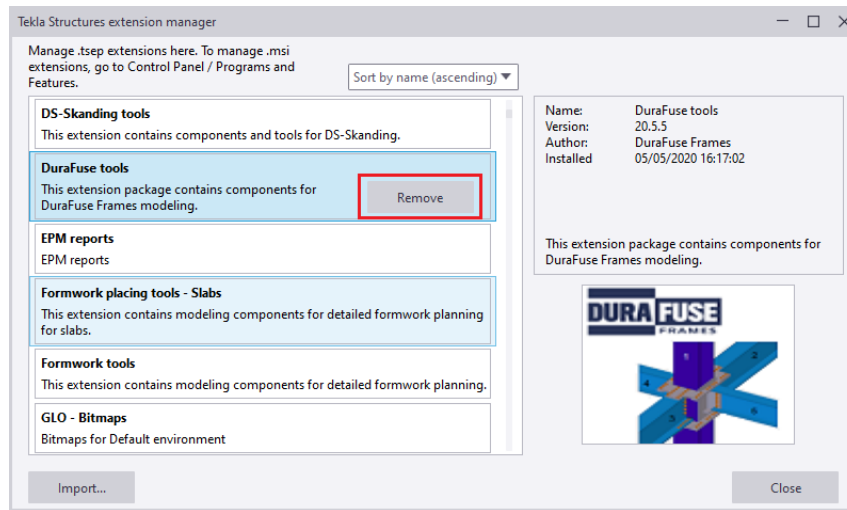

Figure 3-9. Remove the Old DuraFuse Tools
- Scroll down and locate the **DuraFuse tools** in the list and click the **Remove** button (Figure 3-9). This will uninstall the DuraFuse Tools from the computer.